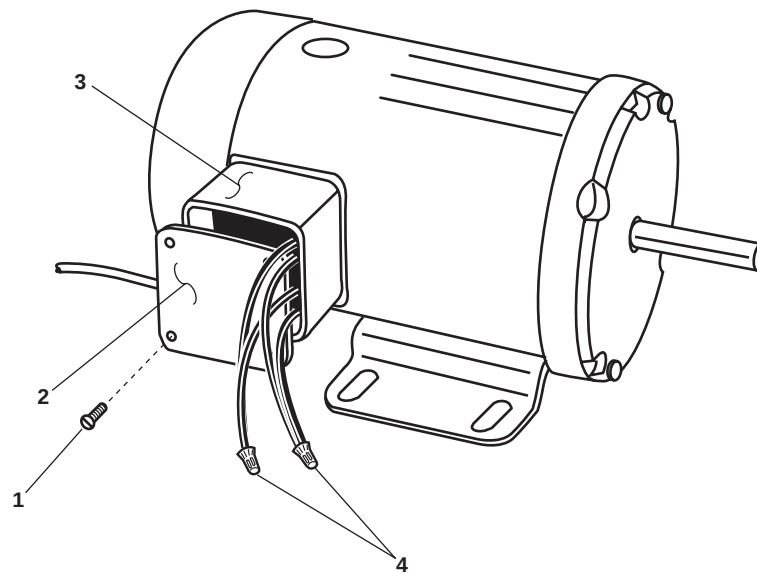

Figure 1. Potable Water Pump Motor and Junction Box
1. Remove the four screws (figure 1, item 1) and remove the junction box cover (figure 1, item 2) from the junction box (figure 1, item 3).
2. Use a multimeter to check for voltage at the wiring (figure 1, item 4). If voltage is present, ensure that the proper circuit breaker is secured, locked out, and tagged out (FM 55-502). If no voltage is present, continue with the procedure.
3. Label, disconnect, and remove the wiring (figure 1, item 4) from the junction box (figure 1, item 3).